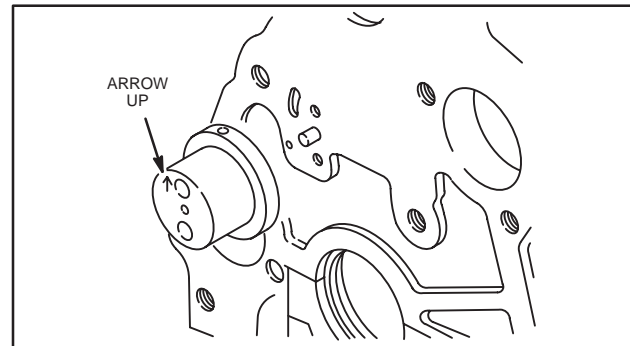

Fig. 18 – Installing Idler Gear Shaft
4. Assemble idler gear shaft with arrow up, as shown in Fig. 18.